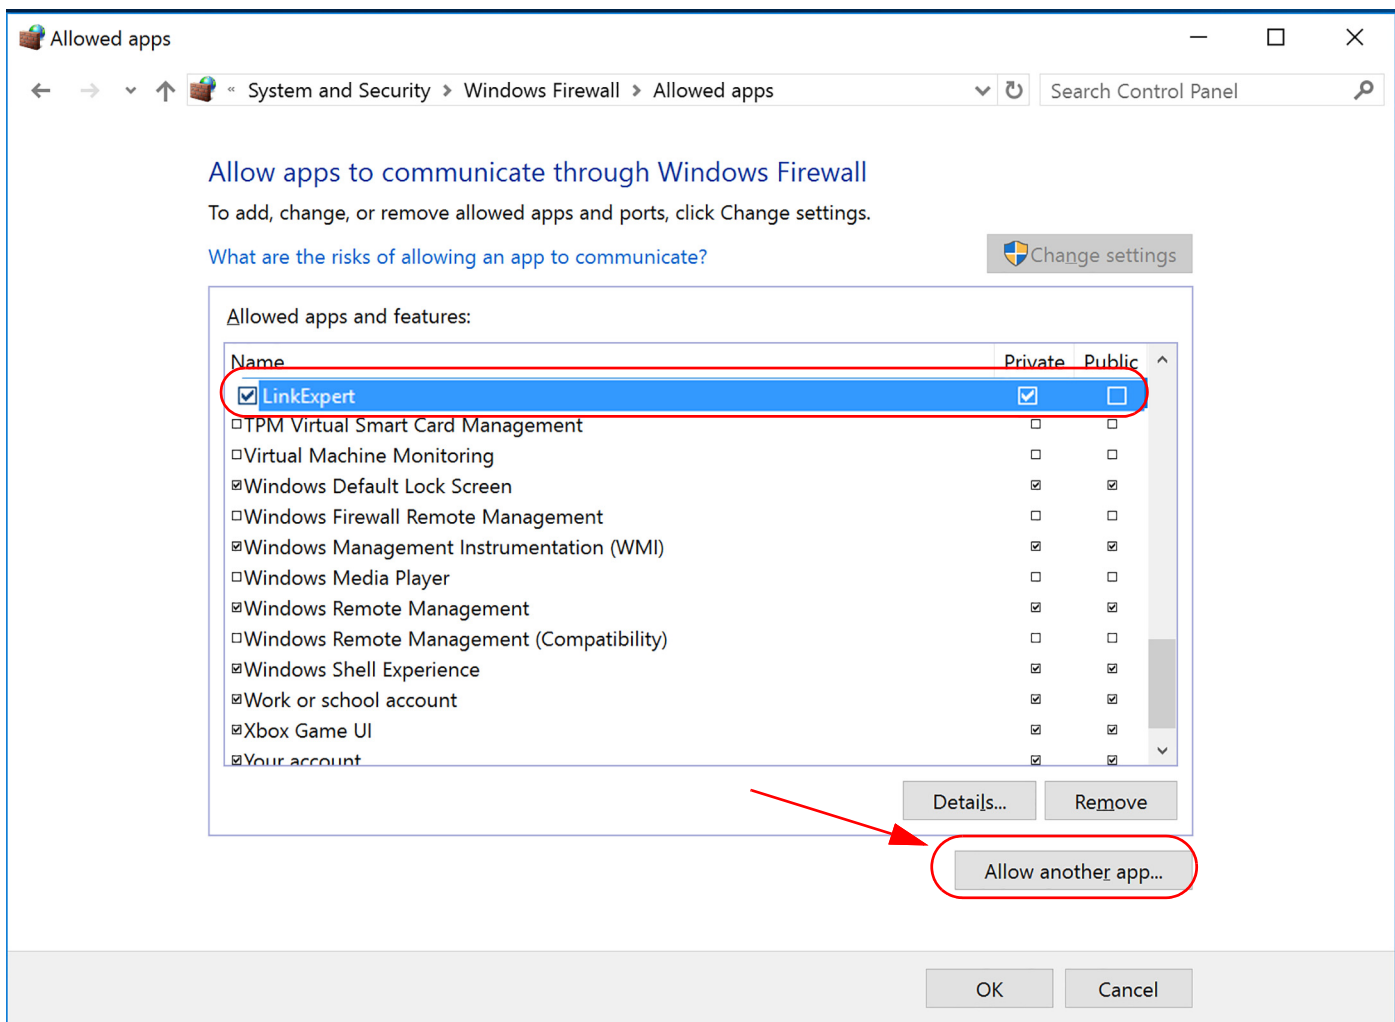

Figure 2.9: Windows Server 2016/2019: Add Teledyne LeCroy LinkExpert to Allowed Applications
10. After the Application has been added, you can see it in the “Allow apps to communicate through Windows Firewall” screen. See Figure 2.9.